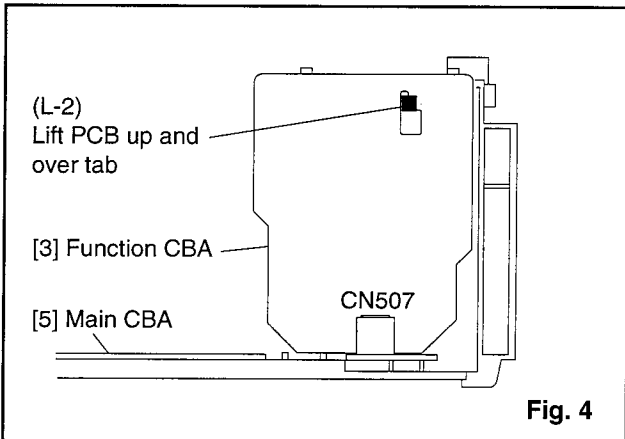

Fig. 4
2. Disconnect Connector (CN507) to remove Function CBA. Hold Main CBA while pulling up Function CBA. (Fig. 4)